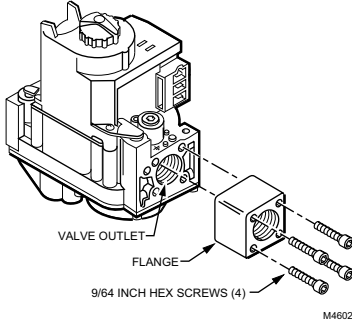

Fig. 1. Fasten flange to valve firmly, but do not overtighten screws.
- 4 With O-ring facing control, align the screw holes on the control with the holes in the flange. Insert and tighten the screws provided with the flange. See Fig. 1. Tighten the screws to 25 inch pounds of torque to provide a gas-tight seal.